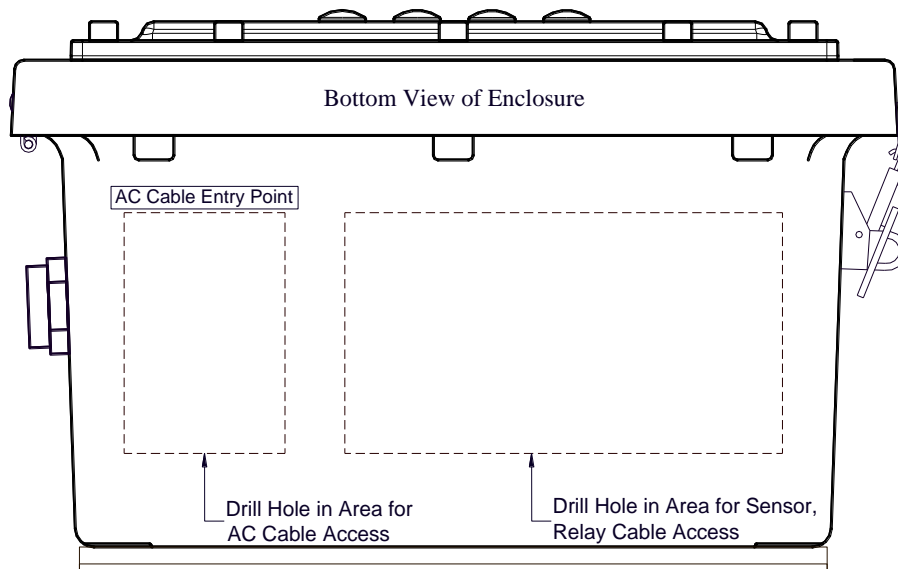

Figure 10 Cable Entry Points
NOTE The cable penetration for the AC power must be made in the bottom of the enclosure (See Figure 10). All penetrations must use a NEMA4 rated cable gland (Appleton P/N CG-2575 or equivalent) to prevent water ingress and restrict access to the internal circuits of the MX 40.
The cable penetration for the DC power must be made in the bottom of the enclosure (See Figure 10). All penetrations must use a NEMA4 rated cable gland (Appleton P/N CG-2575 or equivalent) to prevent water ingress and restrict access to the internal circuits of the MX 40.
- NOTE** All cable penetrations for analog sensor cables must be made in the bottom of the enclosure (See Figure 10). All penetrations must use a NEMA4 rated cable gland (Appleton P/N CG-2575 or equivalent) to prevent water ingress and restrict access to the internal circuits of the MX 40.
NOTE The cable penetrations for the dry contact inputs must be made in the bottom of the enclosure (See Figure 10). All penetrations must use a NEMA4 rated cable gland (Appleton P/N CG-2575 or equivalent) to prevent water ingress and restrict access to the internal circuits of the MX 40.
NOTE The cable penetration for the analog outputs must be made in the bottom of the enclosure (See Figure 10). All penetrations must use a NEMA4 rated cable gland (Appleton P/N CG-2575 or equivalent) to prevent water ingress and restrict access to the internal circuits of the MX 40.